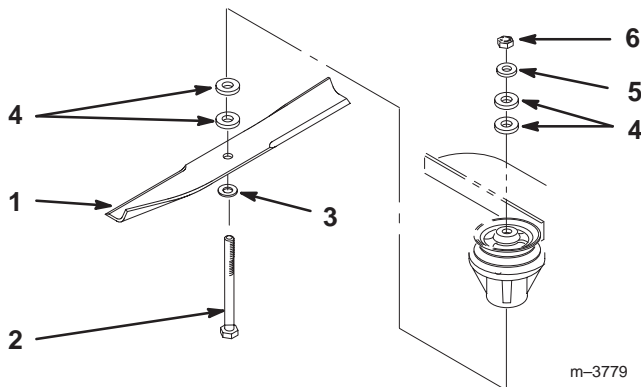

Figure 24
2. Remove the nut, blade bolt, cone washer, blade, spacers, and thin washer from the spindle (Fig. 24).
1. Place the blade onto the bolt and over the cone washer. Select the proper number of spacer(s) for the height-of-cut, and slide the bolt into the spindle (Fig. 24).
2. Install the remaining spacer(s) and secure them with a thin washer and a nut (Fig. 24).